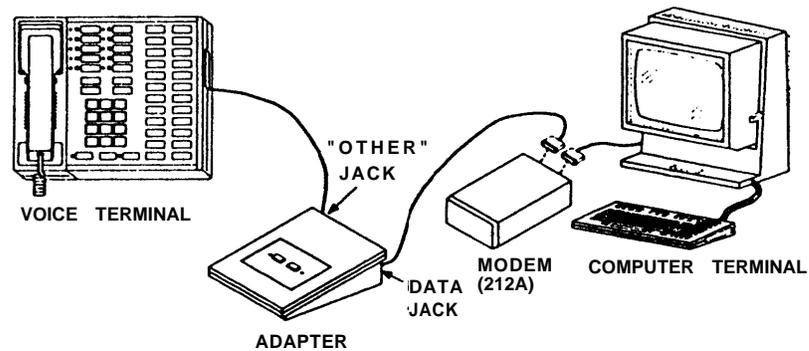

Figure 4
1. Connect one end of the 25-pin cable (RS232) to the plug on the 212A modem, which normally connects to the data phone. Connect the other end of this cable to the DATA jack on the adapter (Figure 4).